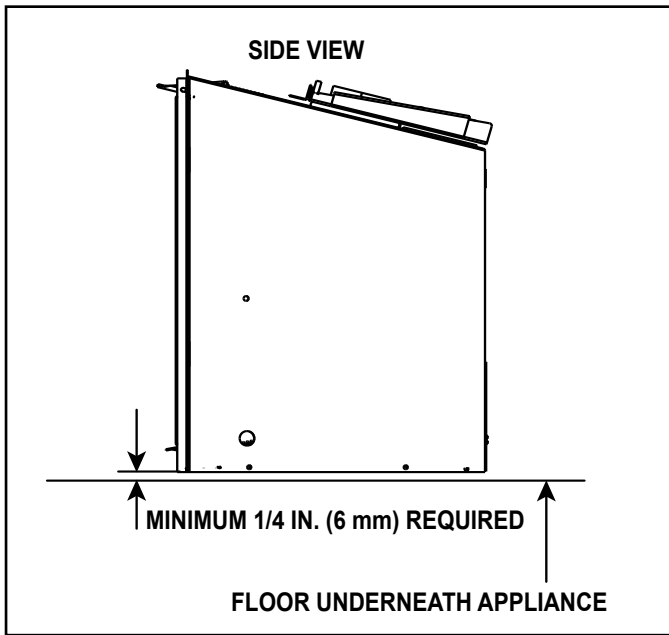

Figure 3.17 Solid Fuel Floor Clearance
- A minimum 1/4 inch (6 mm) gap from the bottom of the appliance to any floor surface is **REQUIRED**. See side view in Figure 3.17.
- Combustible flooring underneath the appliance is acceptable with a 1/4 inch (6 mm) gap. See Figure 3.17.